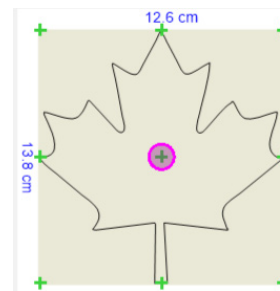

Fig. 5
9. Click on any of the green crosses to change the *Point of Origin* and move the laser to this position relative to the design. (See Fig. 5)